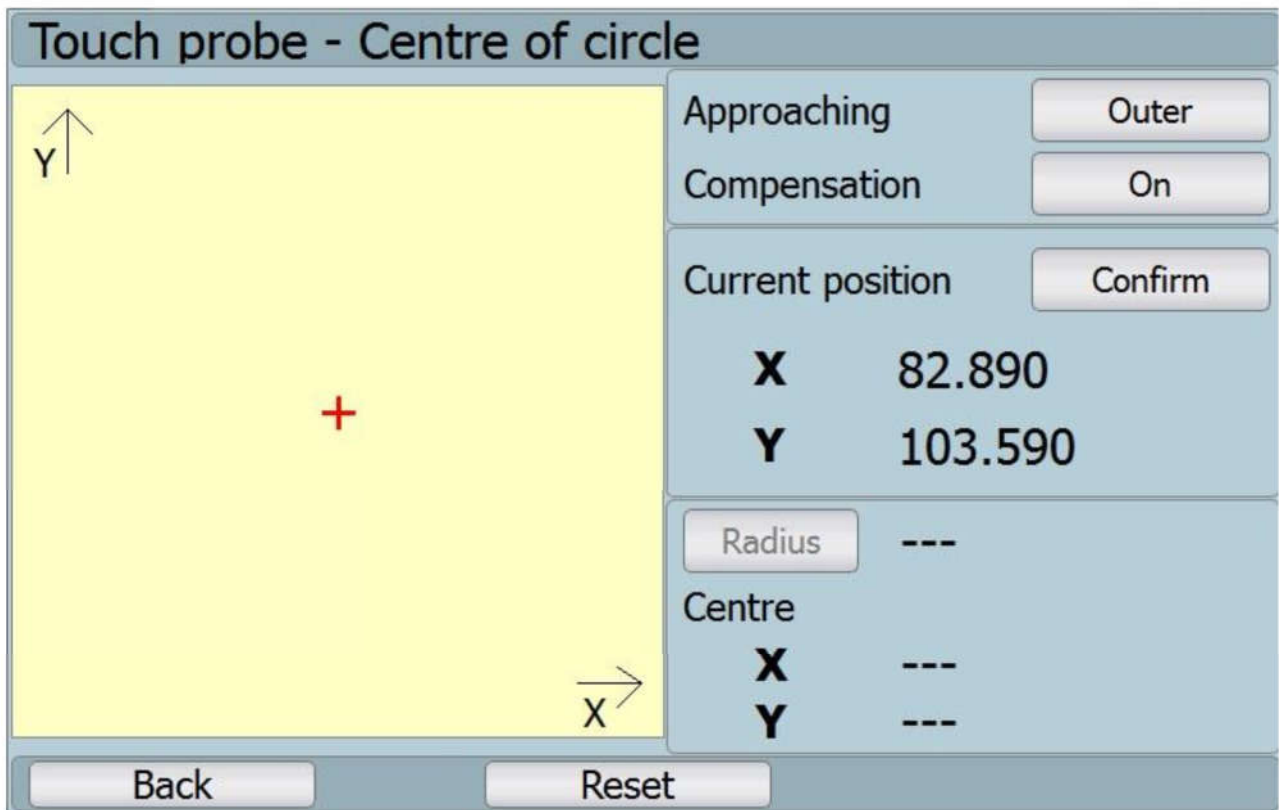

Fig. 44: Touch probe – abscissa centre
- ⑩ It is used for finding the abscissa centre entered by means of two points on the touch probe.
- ⑩ After the probe reaches the required coordinate, press button „Potvrdit“ (confirm) (see fig. 44: Touch probe – abscissa centre) the first point is drawn in the scene.